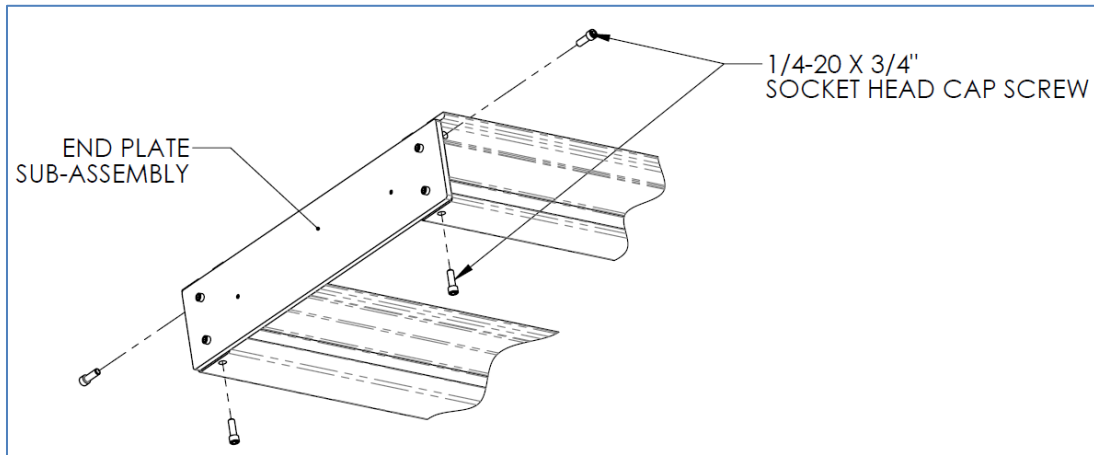

Figure 6
1. Install **only one** rail end plate at the far end of the rails, making sure rubber bumper faces in towards the transverse rails. See Figure 6. Use LOCTITE #242 on all threads. (The other rail end plate can only be installed after the cable handling hardware is installed.)